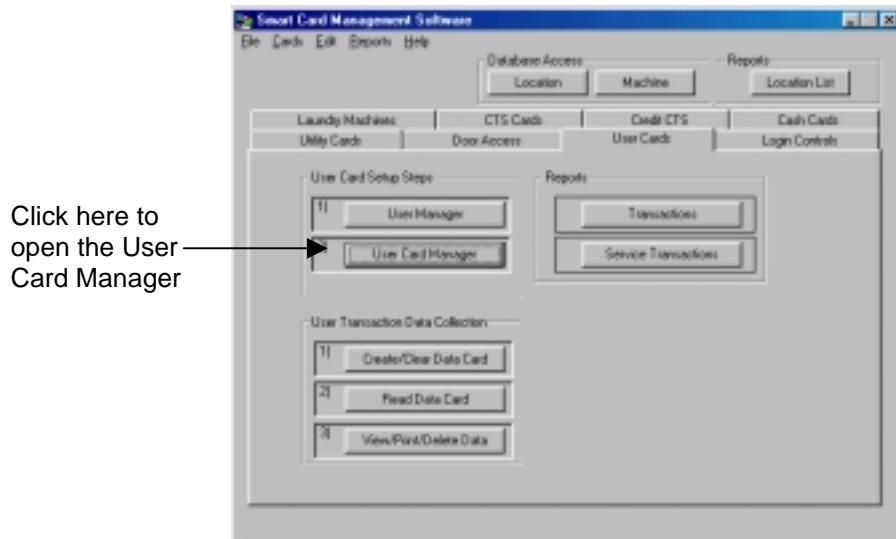

Figure 6.7 Opening the User Card Manager
1. In the User Cards Manager tab, click the User Card Manager button (Figure 6.7).